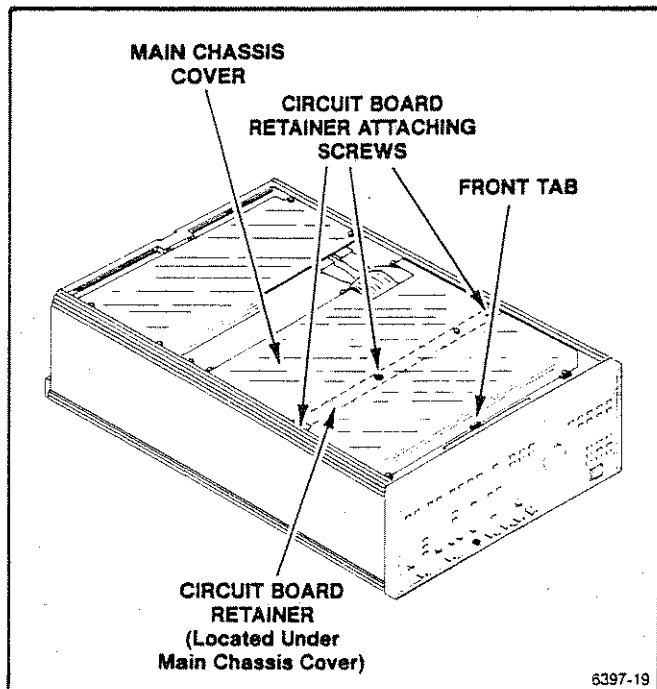

Fig. 3-6 Main chassis cover & circuit board retainer removal
2. Remove the six (6) Main Chassis Cover attaching screws (Figure 3-6). There are three (3) at the rear edge, two (2) at the front edge, and one (1) at the center of the right side.
3. Unscrew the three (3) Circuit Board Retainer screws just so the retainer is free of the chassis (Figure 3-6).